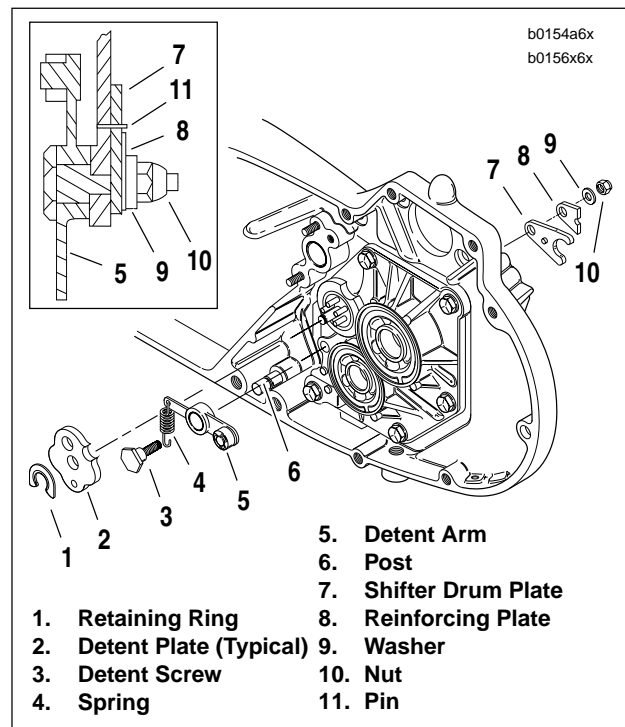

Figure 6-33. Detent Plate Mounting
See Figure 6-33. Detent plate (2) and retaining ring (1) are not installed at this time. These parts are installed during transmission installation after the final shifter pawl adjustment is made. See 6.13 TRANSMISSION INSTALLATION AND SHIFTER PAWL ADJUSTMENT.
- a. At the inside of the access door, place the shifter drum plate (7) in the groove of the drum shaft. See inset Figure 6-33.
- b. Correctly align reinforcement plate (8) with the pin pressed in the shifter drum plate (7).
- c. Insert detent screw (3) through detent arm (5), access door, shifter drum plate (7), reinforcing plate (8) and washer (9).
- d. Thread nut (10) on detent screw. Tighten to 13-17 ft-lbs (18-23 Nm).